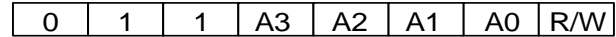

Figure 7: I²C-Compatible Device Address
After a start (S) condition, the I²C-compatible master sends a 7-bit address, followed by an eighth data direction bit (where 1 = read and 0 = write). The eighth bit indicates the register address to/from which the data is written/read (see Figure 7).